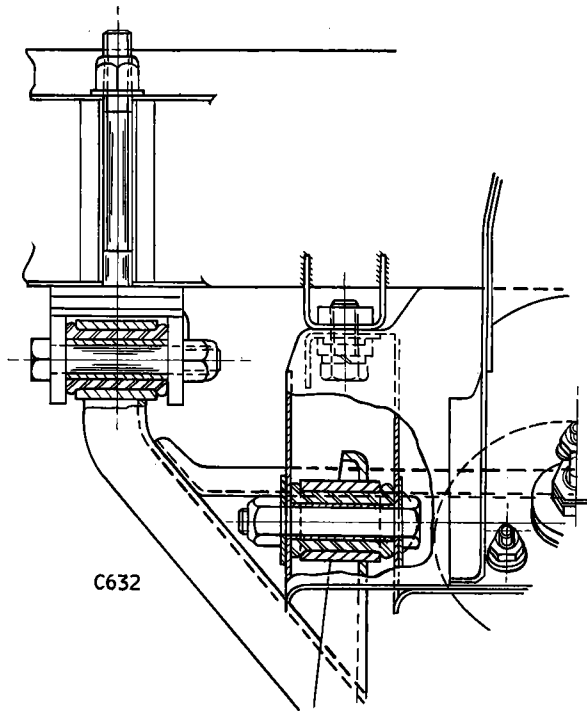
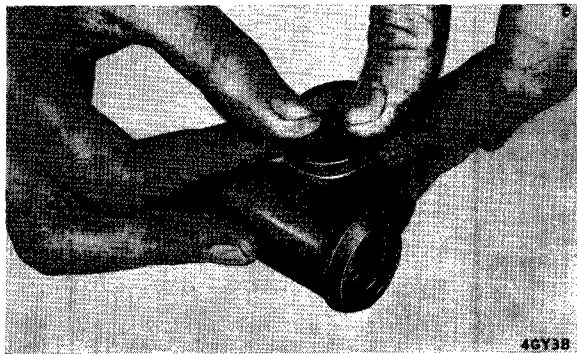

Fig. 14. Cross section of upper and lower inner fulcrum pivots
Fig. 15. Fitting seals to lower fulcrum nylon bushes
1. Using a suitable press and pilot tool, press the rubber bushes (13) into the eyes at the inner ends of the upper wishbones (10) and (12) and lower wishbones (35) until they protrude equally either side of the wishbone eyes as shown on Fig. 14.
2. Fit the stub axle (52) to the vertical link (18), with the split pin hole in its outer end horizontal. Secure the stub axle with the plain washer (24) and nyloc nut (23).
3. Fit two nylon bushes (41) with a washer (41A) beneath the flange, steel sleeve (39) and spring the rubber dust excluders (40) over the nylon bush flanges on the lower trunnion (42) (see Fig. 15).